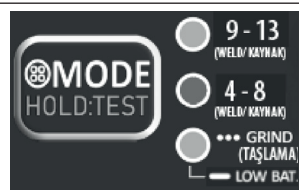

Figure 1
- If the helmet sits too high or low on your head, adjust the straps that go over your head. To do this, release the locking pin from the hole on the straps, adjust the two parts of the strap for a wider or narrower fit, and secure the pin in the closest hole (see Figure 1-X).
- Press the knob on the right or left side of the helmet to slide it closer or further away from your face and lock it into the desired position in the slots. Ensure both eyes are at the same distance from the lens (see Figure 1-V).
- Loosen the nuts on both sides of the helmet to raise the positioning tab inside. Adjust to your eye level, then lock the tab into place and tighten the nuts (see Figure 1-Y).
- Use the MODE button to toggle through 9-13 Welding (WELD), 4-8 Welding (WELD), and Grinding (GRIND) modes by pressing it briefly. (See Figure 1.)